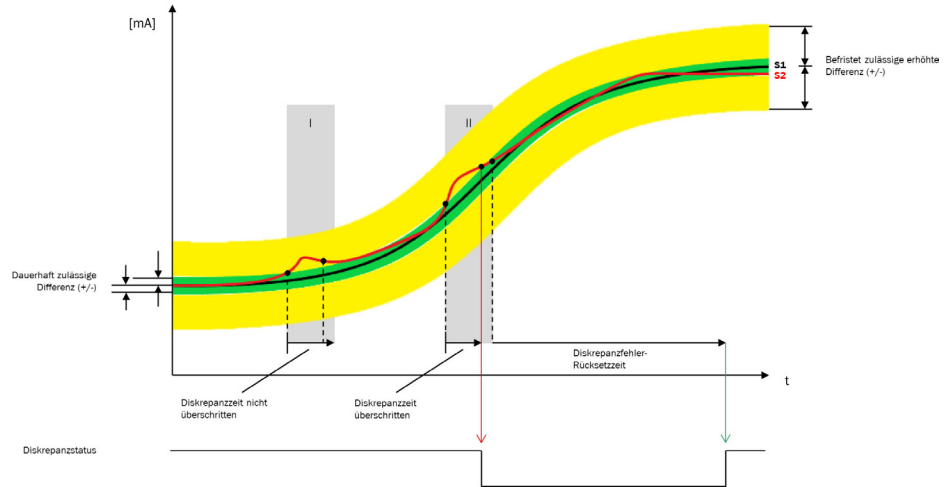

Figure 223: Exceeding the unlimited permissible difference and discrepancy time
- The measured values from sensor AI1 and sensor AI2 deviate from one another for longer than the configured **Discrepancy time** and by more than the **Permanently permissible difference**, without the configured **Limited permissible increased difference** being exceeded (figure 223, case II).